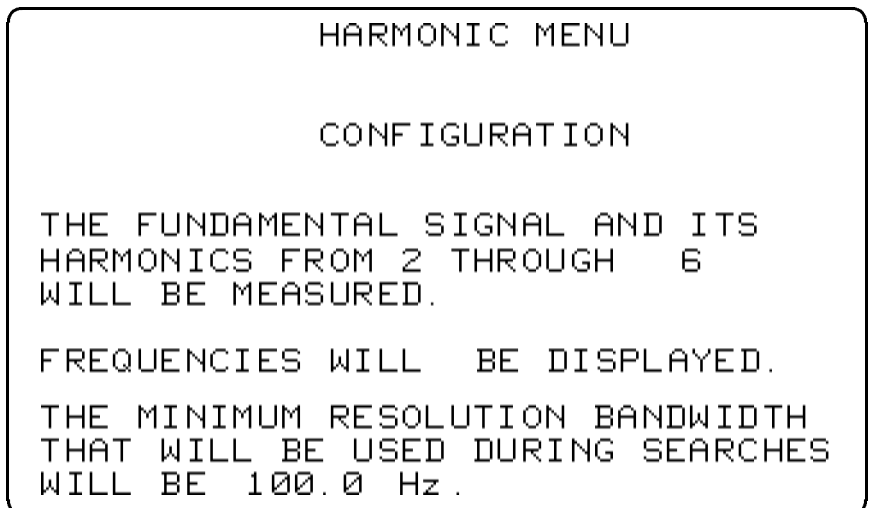

Figure 2-6. Harmonic Menu Configuration
5. Press **HARMONIC MENU**. The display now shows the configuration settings, and should look like Figure 2-6. If these settings are not appropriate, press **CONFIG HARMONIC** and change them to suitable values. When finished, press **CONFIG DONE**.